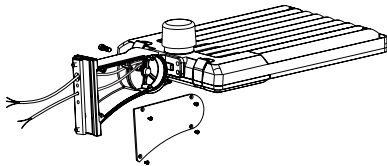

Figure 3
Step 1: Remove the bracket mounting screws on the fixture, open the side lid of bracket and run the wire through the bracket (Fig. 3)